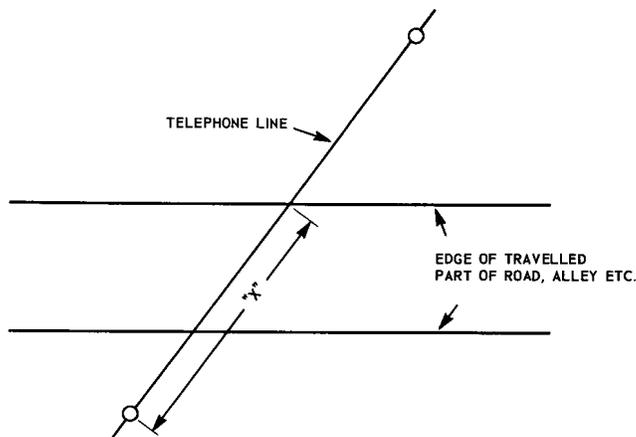

Fig. 1—Midspan Sag Diagram
1.05 Considerable savings in pole height can sometimes be obtained by locating poles so that the low point of a span will not occur above streets, alleys, or driveways. While there is no reduction in clearance for cable or guys in the light loading area, pole height can still be reduced since it need not be based upon 100 percent of midspan sag. The following table shows the approximate percentage of midspan sag to be used in determining the height of pole attachment when the far edge of the road, alley, or driveway is 50 and 100 feet from the pole. (See distance "X" shown in Fig. 1.)